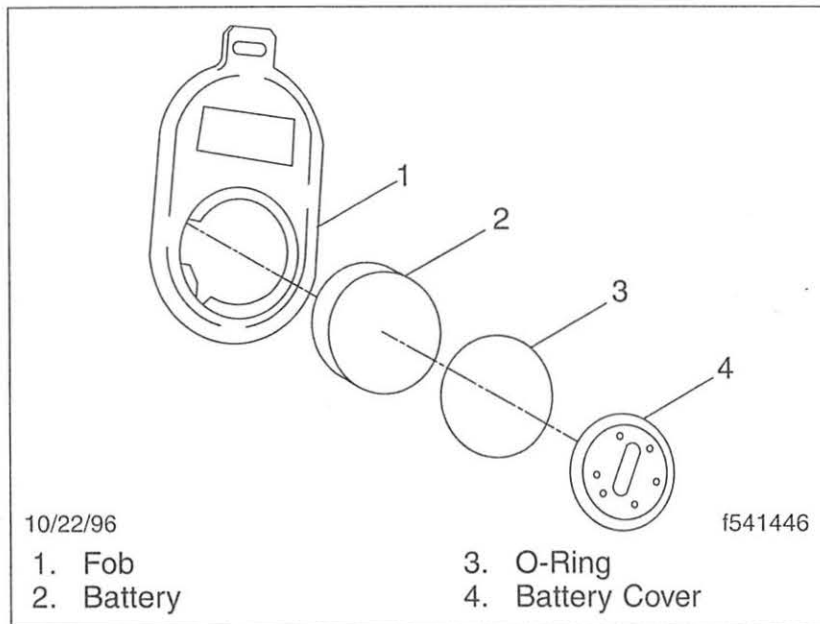

Fig. 3.12, Fob Battery
1. Open the battery cover on the back of the fob with a suitable coin or other thin piece of metal. Twist off the cover. See **Fig. 3.12**.